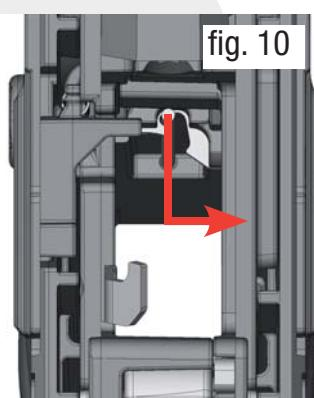

fig. 10
- Loosen the spring and push it onto the tip of the magazine release (Fig. 10).